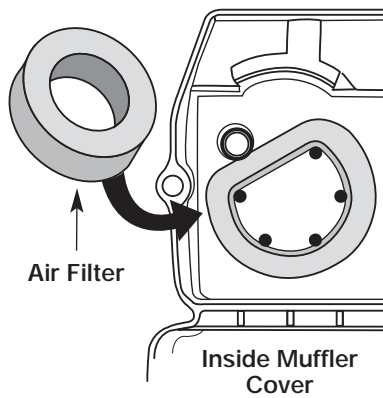

Figure 22
2. Turn cover over and look inside to locate the air filter. Remove the air filter from inside the air filter/muffler cover. See Figure 22.
6. Replace the air filter inside the air filter/muffer cover. See Figure 22.